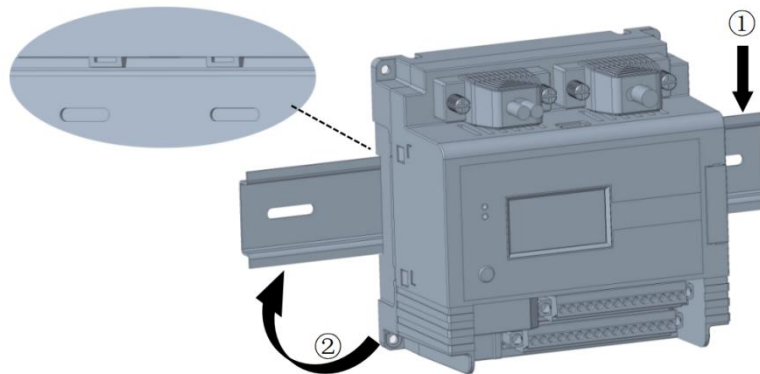

Figure 4-1: Installing module on DIN rail
- Install vertically (rail horizontal prevention), as shown in Figure 4-1.